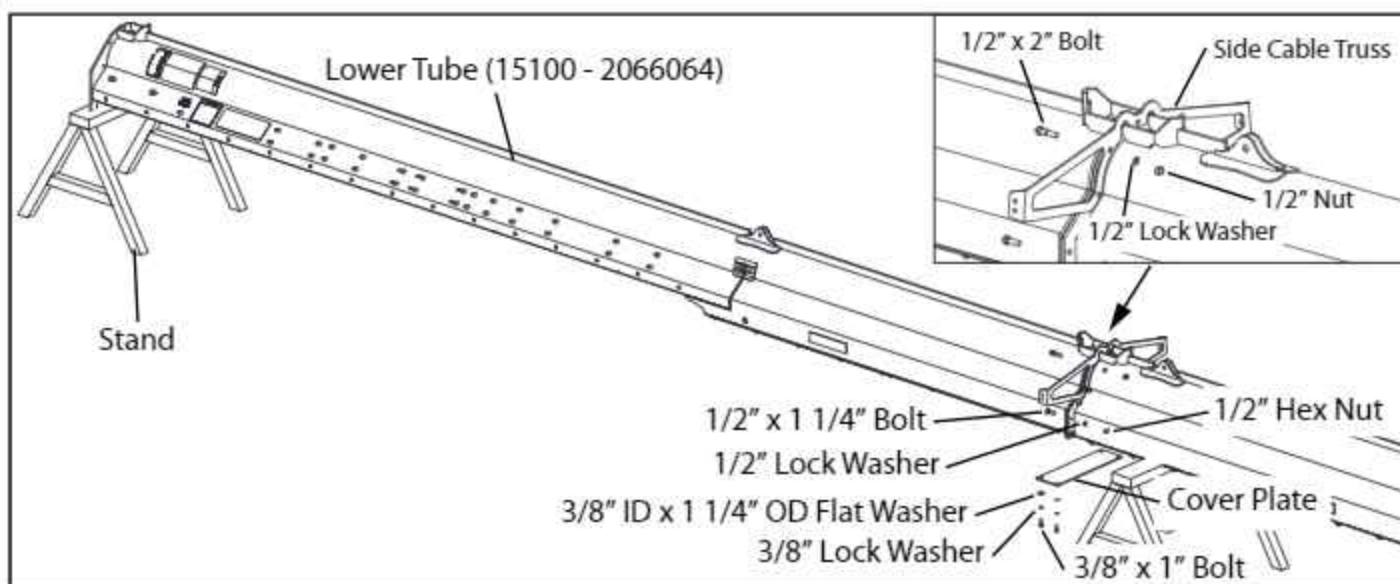

FIG. 3-14. Lower Tube Installation - 15100
4. Place a stand where shown in Fig. 3-14. Bring in the Lower Tube Assembly. Make sure it is oriented as shown. Remove any Wind Guard Plates necessary to gain access to the tube flanges.